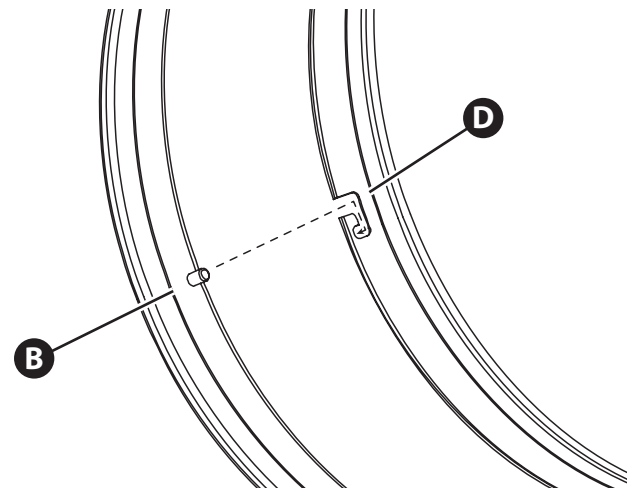

Figure 4.5
- To attach the slip-lock flexible duct, align a lock pin and arrow of the connecting band (B, Figure 4.5) with a "J" slot in the outlet ring (D). Slip the connecting band inside the outlet ring as deep as it will go. Twist the connecting band counter-